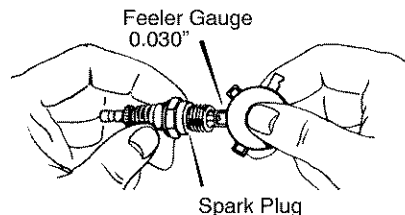

Figure 39
2. Be sure **spark plug** is clean and free of foreign material. Check electrodes gap with a wire **feeler gauge** and reset gap to 0.030" if necessary. See Figure 39.